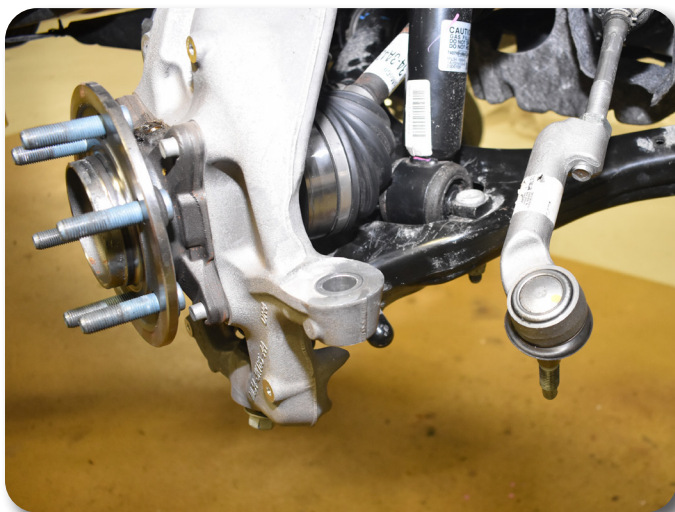

Figure 6
10. Remove the steering tie rod end nut from the tie rod end at the steering knuckle. Use an appropriate ball joint separator to dislodge the upper ball joint taper from the knuckle. **Figure 6**